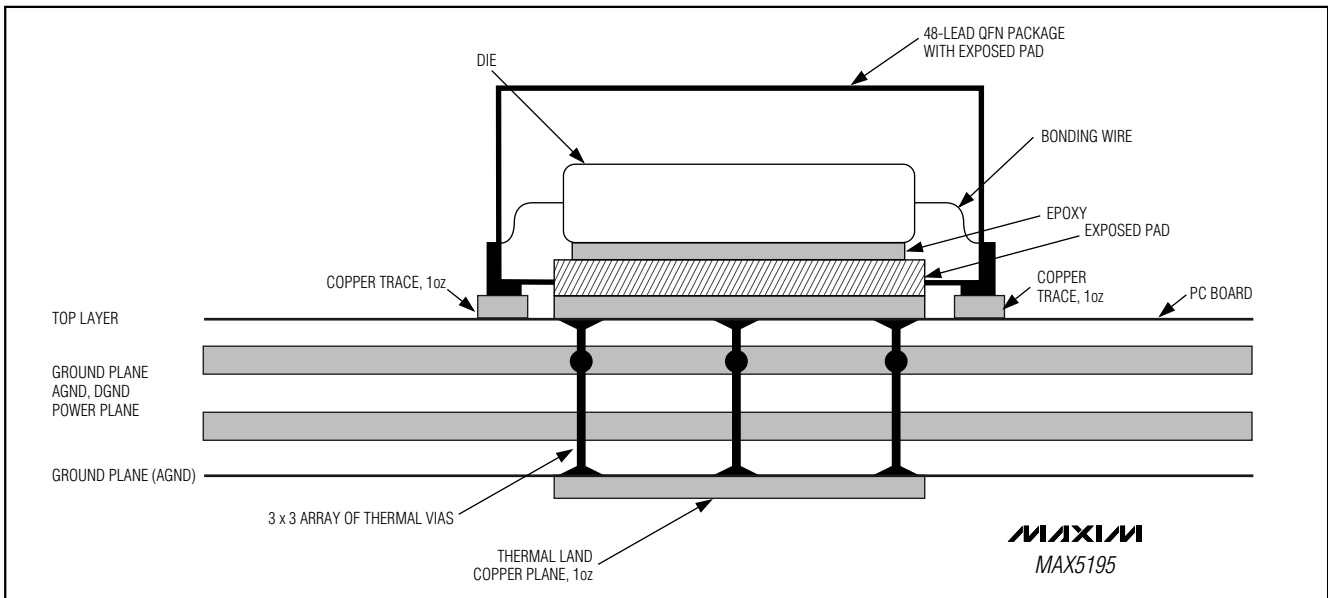

Figure 9. MAX5195 Exposed Paddle/PC Board Cross Section
The MAX5195 is packaged in a thermally enhanced 48-pin QFN-EP package, providing greater design flexibility, increased thermal efficiency, and a low thermal junction-case (θ_{jc}) resistance of $\approx 2^{\circ}\text{C}/\text{W}$. In this package, the data converter die is attached to an EP lead frame. The back of the lead frame is exposed at the package bottom surface (the PC board side of the package, Figure 9). This allows the package to be attached to the PC board with standard infrared (IR) flow soldering techniques. A specially created land pattern on the PC board, matching the size of the EP (5.5mm \times 5.5mm), guarantees proper attachment of the chip, and can also be used for heat-sinking purposes. Designing thermal vias* into the land area and implementing large ground planes in the PC board design further enhance the thermal conductivity between board and package. To remove heat from a 48-pin QFN-EP package effectively, an array of 3 \times 3 (or